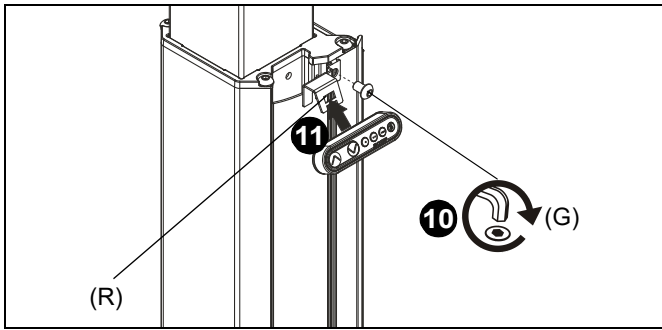
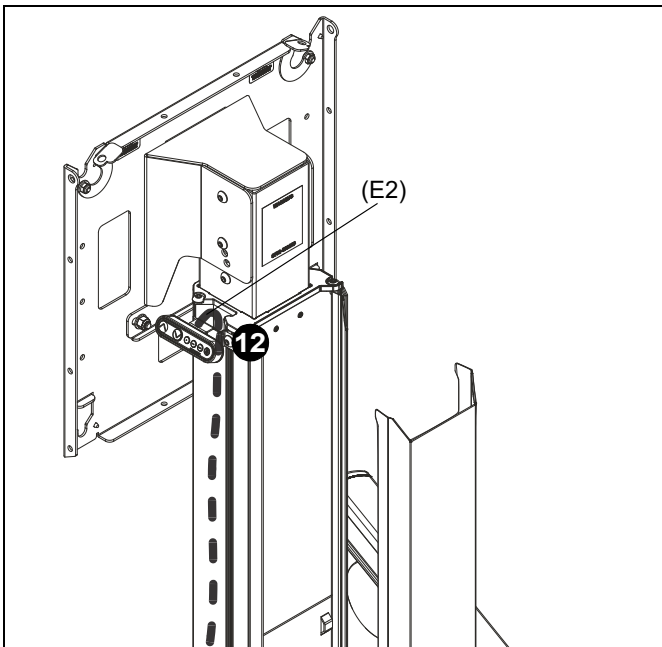
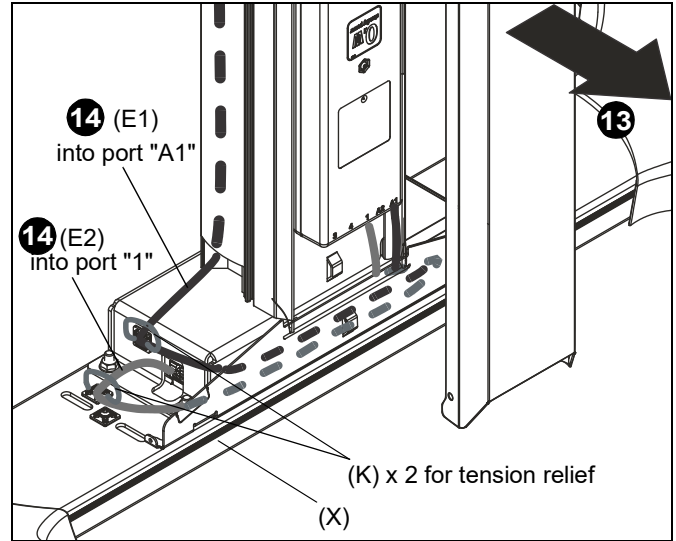
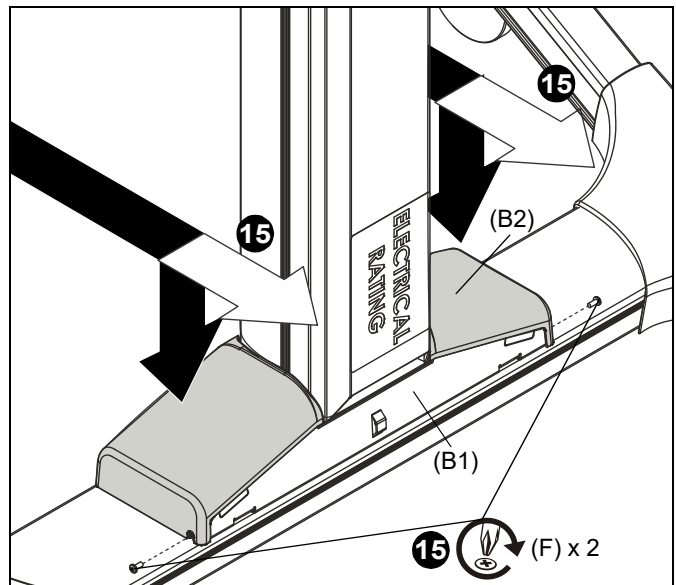

Figure 5
Figure 6
Figure 7
Figure 8
10. Attach control pad bracket (R) to column assembly (T) using 5/16-18 x 1/2" button head cap screw (G). (See Figure 5)
11. Secure control pad (E1) into control pad bracket (R). (See Figure 5)
**NOTE:** Control pad may also be attached to bottom of display using double-sided tape (U) after display has been installed.
12. Route control pad cable (E1) through side channel. (See Figure 6) and (See Figure 7)
13. Remove back cover to expose control box. (See Figure 7)
14. Route control pad cable (E1) and motor cable (E2) behind back cover plate (B1) and into corresponding ports on control box. (See Figure 7) and (See Figure 8)
**NOTE:** Use cable ties (K) and pre-installed cable clips to provide tension relief.
15. Slide lower cover (B2) onto column assembly (T) and use two 8-32 x 3/8" Phillips pan machine screws (F) to secure bottom back cover (B1) to lower cover (B2). (See Figure 8)